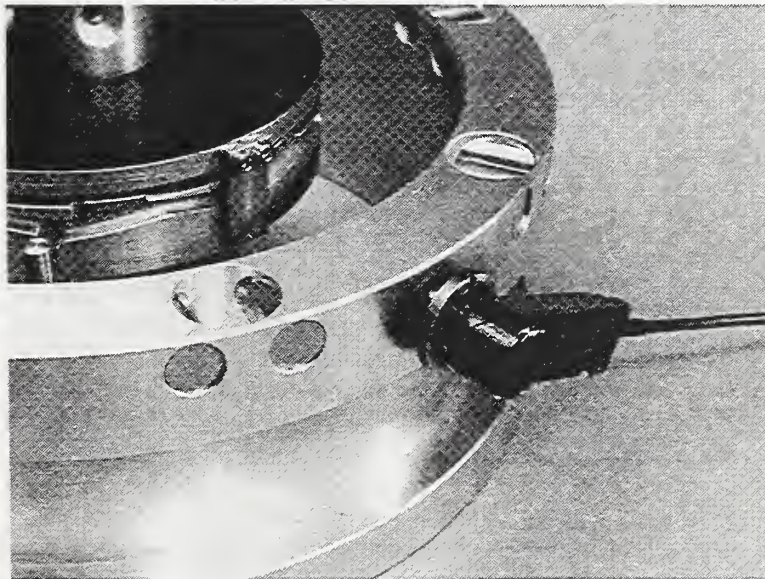

Figure 19. Temperature sensor mounting bolt with part temperature sensor magnetically attached to it
Step 7. If your CMM has part temperature compensation, attach the temperature sensor to the temperature sensor mounting bolt. Refer to Figure 19.